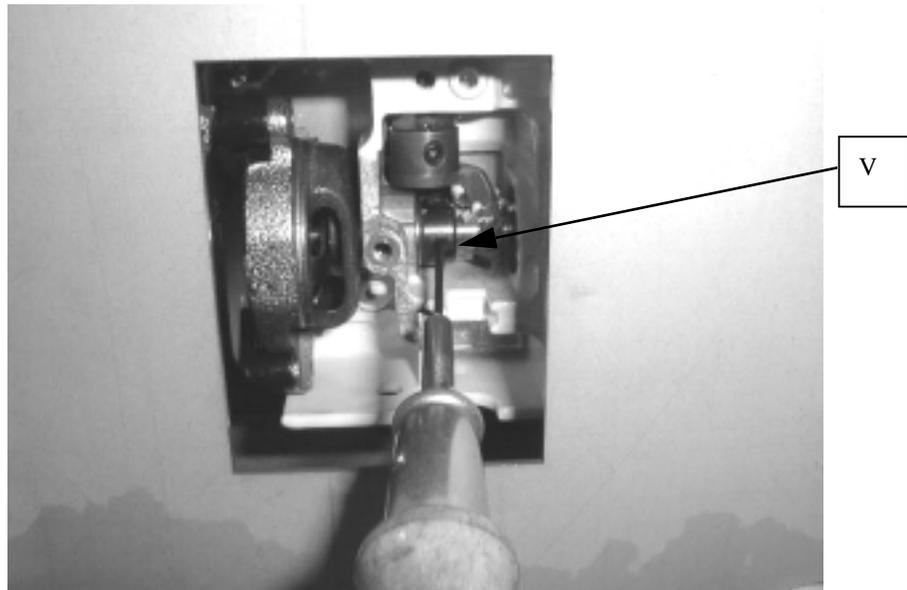

FIGURE 2-16
15. If a thrust play exists in the hook shaft, loosen two socket screws(V) of the hook shaft ring, and tighten the hook shaft by the hook shaft ring while holding the hook driver by hand so as to eliminate the thrust play as shown in Fig.2-16.